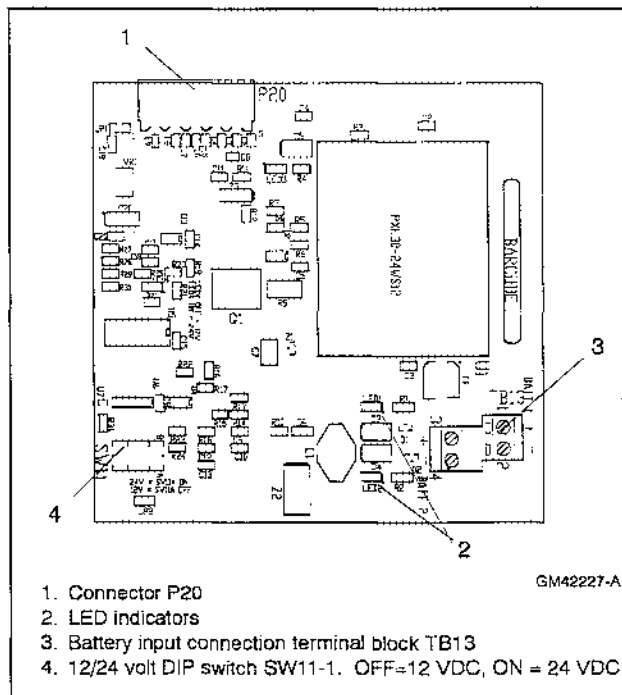

Figure 10-14 External Battery Supply Module
The external battery supply module kit includes one external battery supply circuit board and the circuit board mounting components. See Figure 10-14.
1. Use #14-28 AWG wire to connect one or two batteries to terminal block TB13. (A second battery can be connected but is not required.) Follow the marking on the board for the positive (+) and negative (-) connections. See Figure 10-14 and Figure 10-15.
Note: If the battery connections are reversed, red LED1 or LED2 will light. See Figure 10-14.
2. Set voltage selector switch SW11-1 to 12 or 24VDC. See Figure 10-14 and Figure 10-15. Switch SW11-2 is not used.